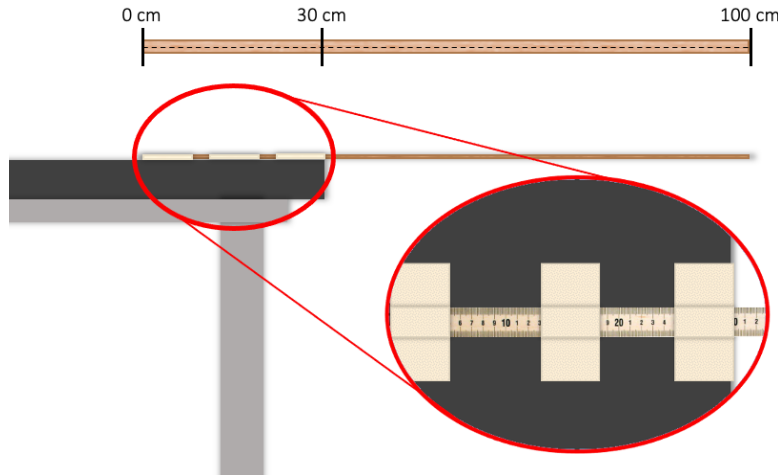

Figure 2: Experimental setup with 2" masking tape.
2. What forces are acting upon the system shown in Figure 2 (before attempting to lift the meter stick)? What forces are acting upon the system when you lift the meter stick?